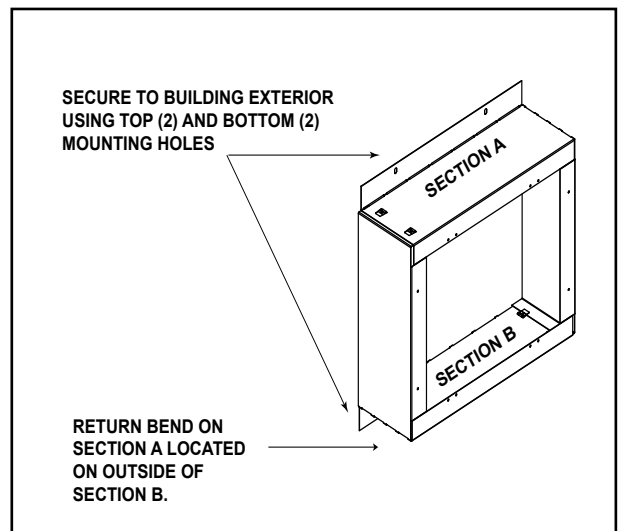

Figure 3.19 BEK Assembled
12. Use the supplied screws to assemble the box as shown in Figure 3.19. The return bend on section A should be located on the outside of section B.